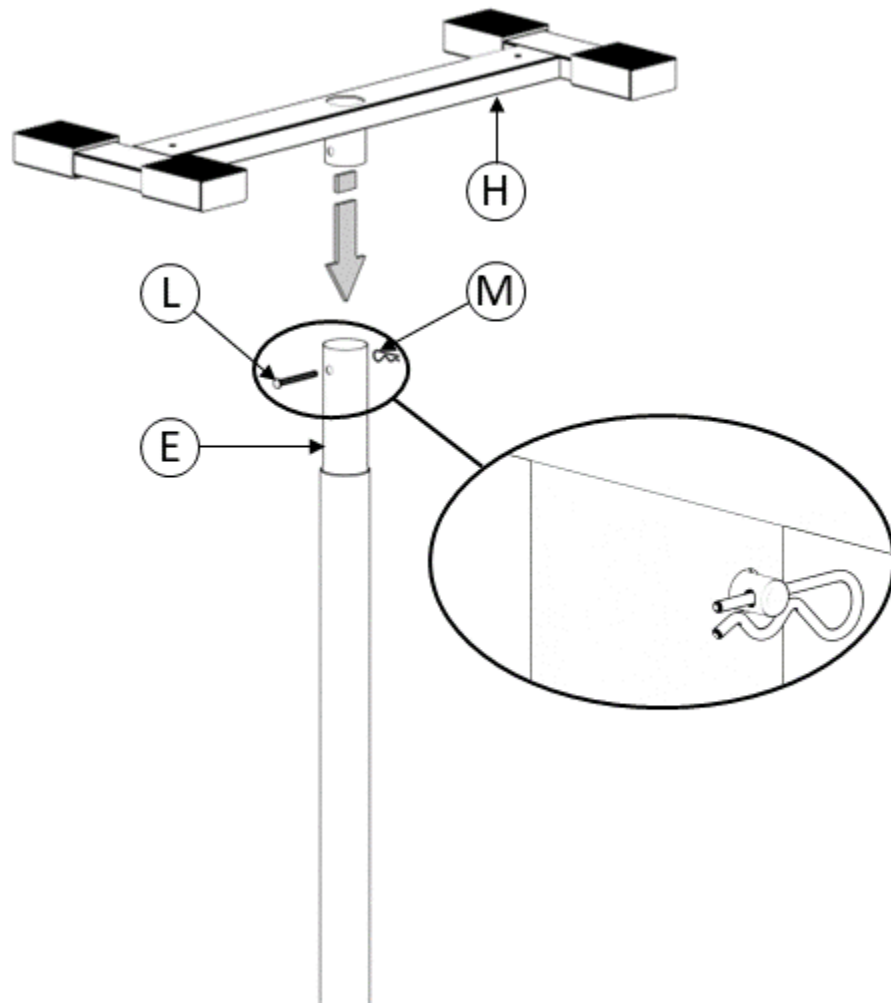

FIGURE 8
8. Insert **H** into **E**, align holes and insert **L** through **H** and **E**. Insert **M** through **L** to secure as shown in *FIGURE 8*.